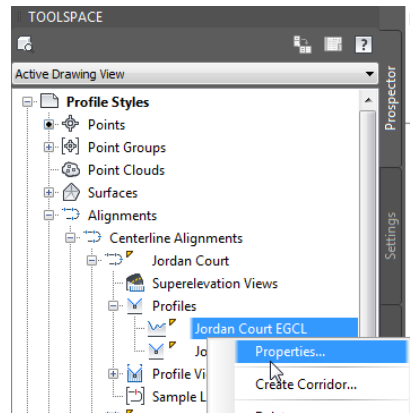

FIGURE 8.2 Using Prospector to access the Properties command for the Jordan Court EGCL profile
8. In Prospector, expand Alignments > Centerline Alignments > Jordan Court > Profiles. Right-click Jordan Court EGCL and select Properties, as shown in Figure 8.2.